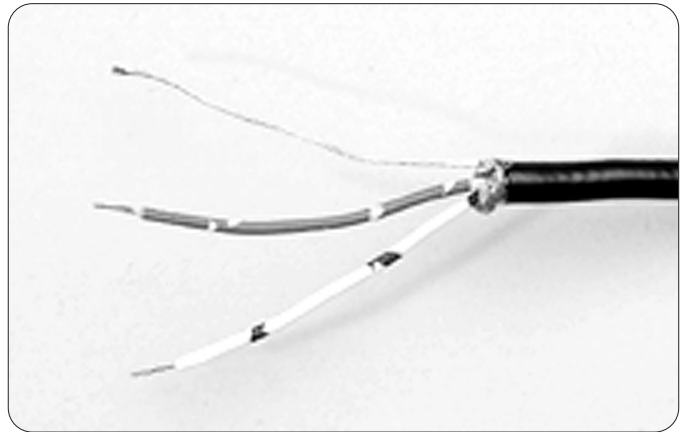

Figure 3.14: Stripping conductors and applying heat shrink tubing
3. Cut away the braided shield and the foil shield. Strip the insulation from the conductors approximately 1 cm (0.5 in), as shown in Figure 3.14.